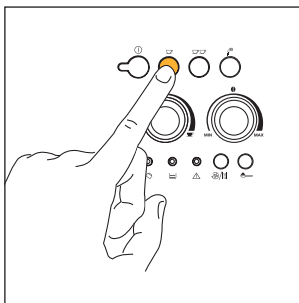
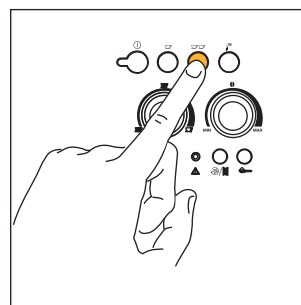

Fig. 12
Fig.13
- 5) Press the ☕ button (Fig. 12) to make one cup of coffee or the ☕☕ button (Fig. 13) to make 2 coffees. *At this point the machine grinds the beans, runs a short pre-infusion cycle, a pause and then completes the delivery.*
NOTE 4: while the machine is making the coffee, the delivery can be stopped at any time by pressing the ☺ button (Fig. 12) or ☺☺ button (Fig. 13), as previously selected.
NOTE 5: as soon as delivery is complete, to increase the quantity of coffee, simply press and hold the ☺ button (Fig. 12) or ☺☺ button (Fig. 13), as previously selected, until reaching the desired quantity (this operation must be performed within 3 seconds from the end of the delivery of the coffee from the spouts).